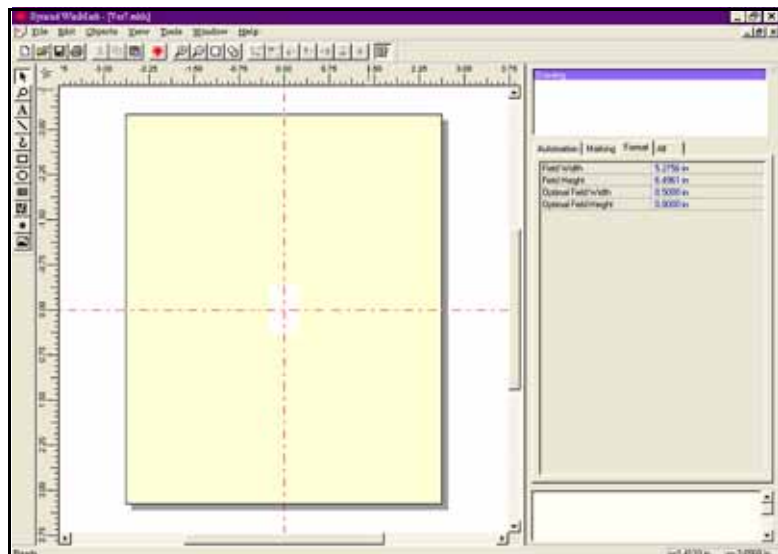

Figure 3-53: The Synrad WinMark Window with the Format tab on the right.
- 1a. Verify that the marking graphic is centered on the device. If the graphic is not centered, adjust the laser file. Refer to Figure 3-53 on page 3-63.